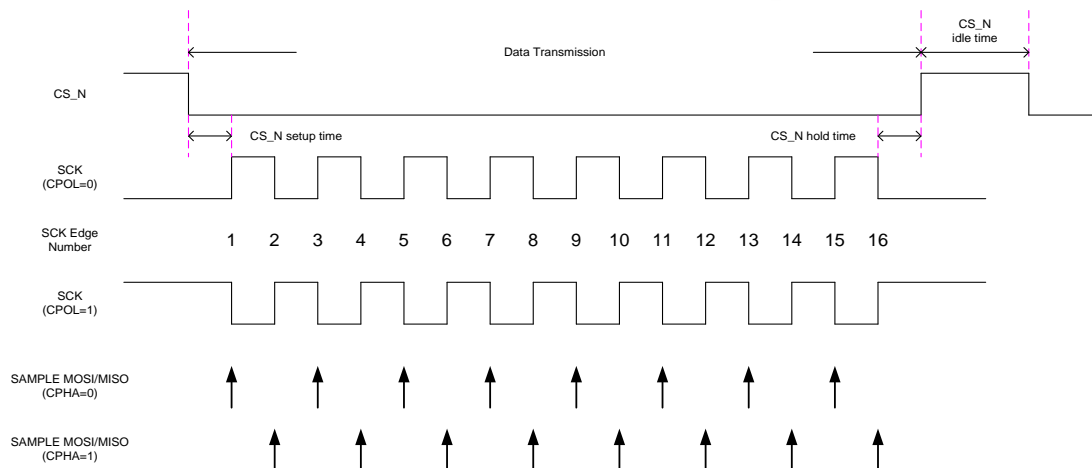

Figure 8-2. SPI transmission formats
- Configurable CS_N setup time, hold time and idle time (see Figure 8-2)